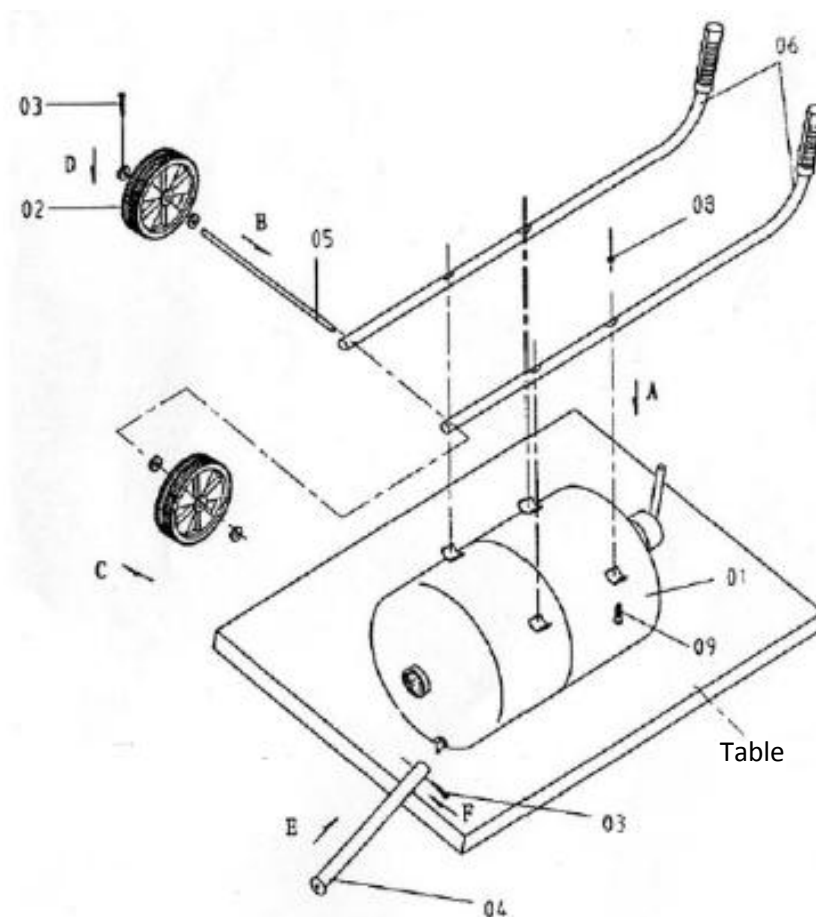

Figure 7
7. Install the two handles (6) to the tank using four screws (9) and four hex nuts (8). Note that the ends of the handles are bent upwards (Figure 7).
8. Insert the axle (5) into the holes on the sides of the handles on their lower surface. Put the wheels (2) on each end of the axle. Install the wheels together with the metal washers (31), placing each on one side of the wheel. Secure the wheels with a pin (3).
9. Place the leg (4) into the matching hole located on the bottom of the tank near the rim. Use the last pin (3) to secure the leg to the tank.